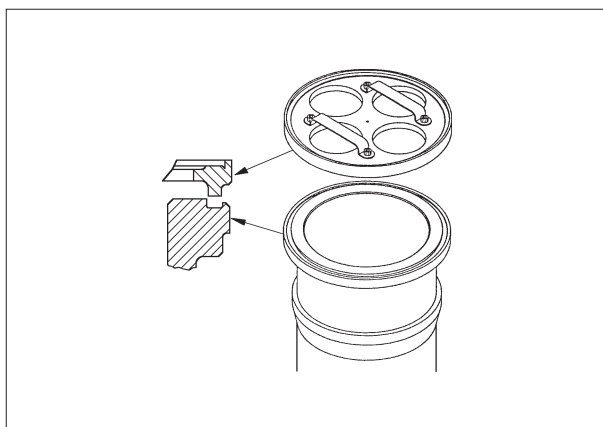
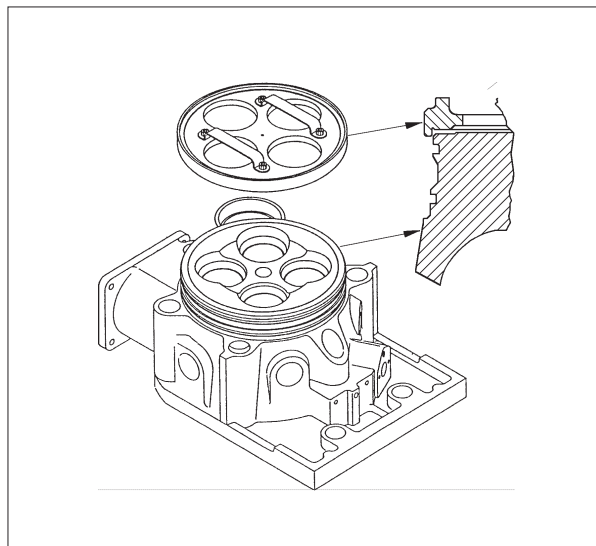

Fig. 2.
Fig. 3.
**2)** Face-grind sealing groove in cylinder liner flange, see fig. 2 and seating surface on the cylinder head, see fig. 3. With the use of grinding pasta and the grinding tool.